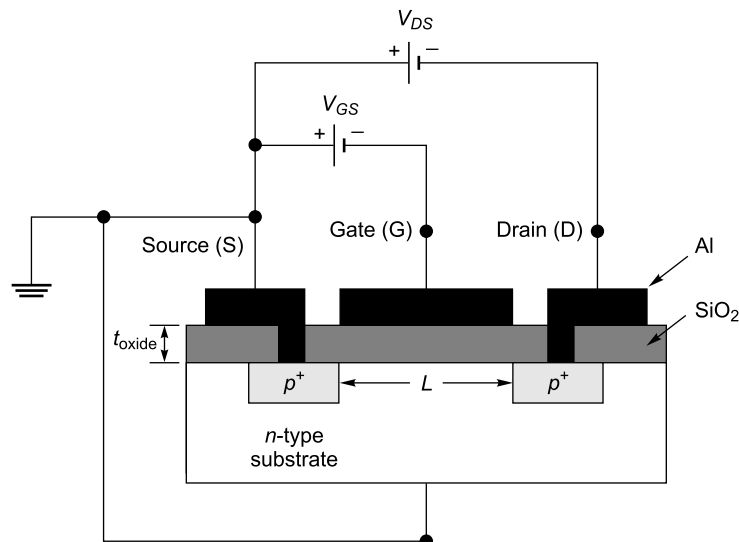

Fig. 1.48 *Cross section of p-channel enhancement type MOSFET*
Figure 1.47 shows the simplified structure of a *p*-channel enhancement-type MOSFET which consists of a lightly doped *n*-type substrate and two p^+ regions. In reality, two highly doped p^+ regions are diffused with in the *n*-type substrate. These p^+ type regions are separated by about $1\ \mu m$ to $20\ \mu m$ and work as source (S) and drain (D) terminals, respectively. The metal contact over the channel region is used as gate terminal. The gate, oxide and *n*-type substrate behave as a MOS capacitor. In Fig. 1.48, L is the channel length and its typical value is about $1\ \mu m$ to $20\ \mu m$. The thickness of oxide t_{oxide} is in the order of 400 angstroms. Figure 1.48 shows the detail cross section of a *p*-channel MOSFET showing oxide and biasing arrangement.